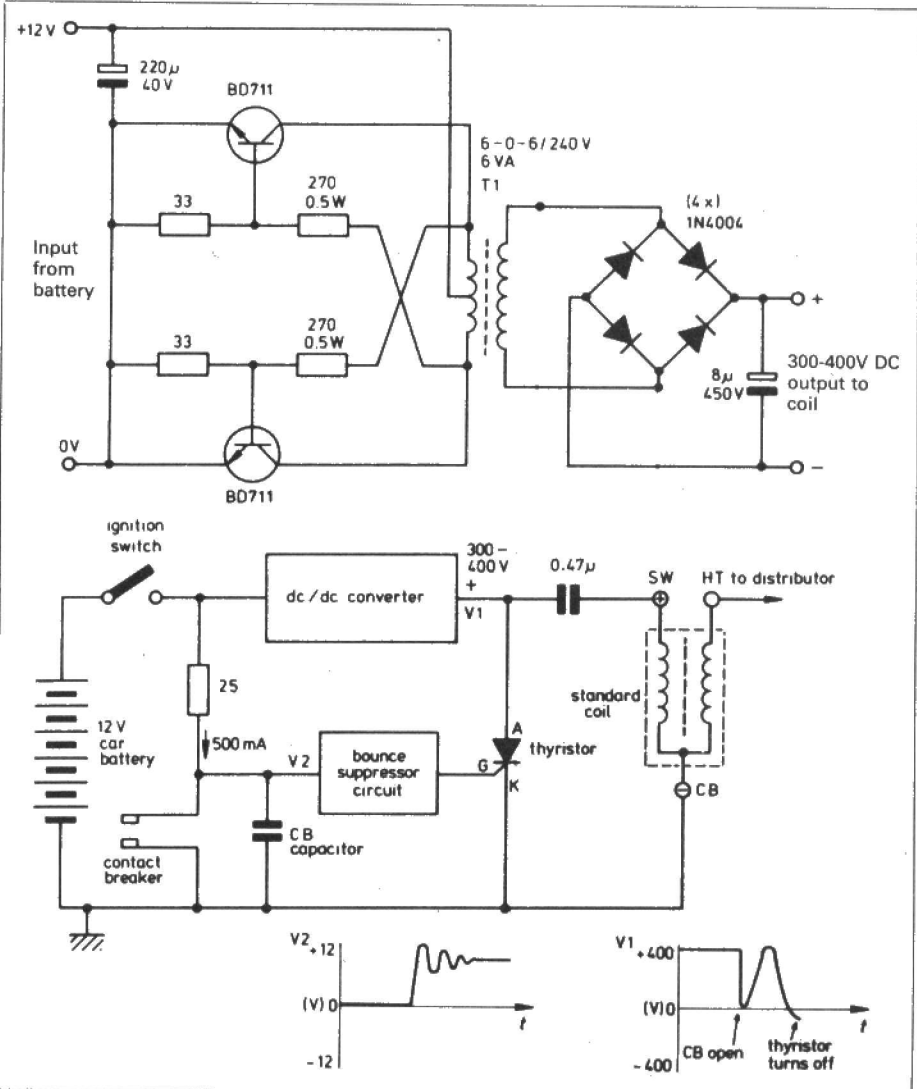

Figure 4.1. Transistorised and capacitor-discharge ignition circuits
- (a) Transistorised ignition or capacitor discharge ignition — see Figure 4.1. and